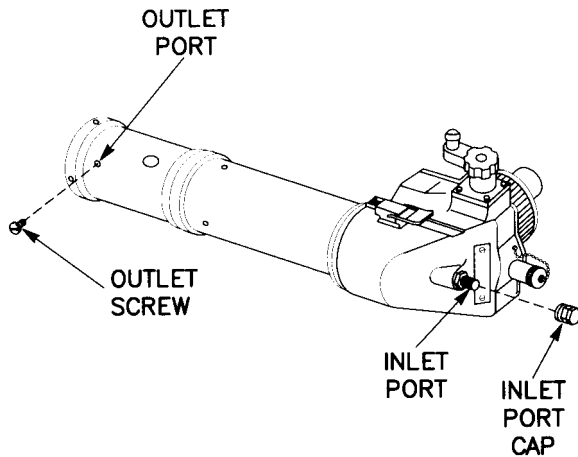

Figure 3-66 M114 Elbow Telescope
a. Elbow Telescope, M114 (fig. 3-66).
(1) Perform purging and charging procedure para 2-5.b.
(2) Purge instrument at 5 psig for 5 minutes.
(3) Charge instrument at 1 psig for 10 seconds.
(4) Leak test for minimum of 5 minutes.
b. Elbow Telescope, M114A1 (fig. 3-66). Refer to para 3-15.a. for procedures.